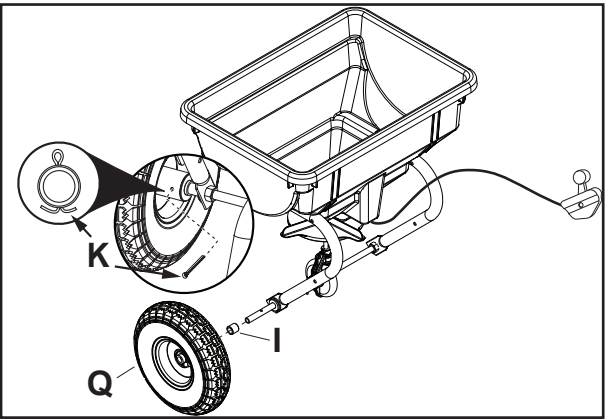

Figure 5
STEP 5 (SEE FIGURE 5): Install a spacer (I) and wheel assembly (Q) onto the left end of the axle. Insert a 5/32" cotter pin (K) through the wheel hub and the hole in the axle and bending the ends.